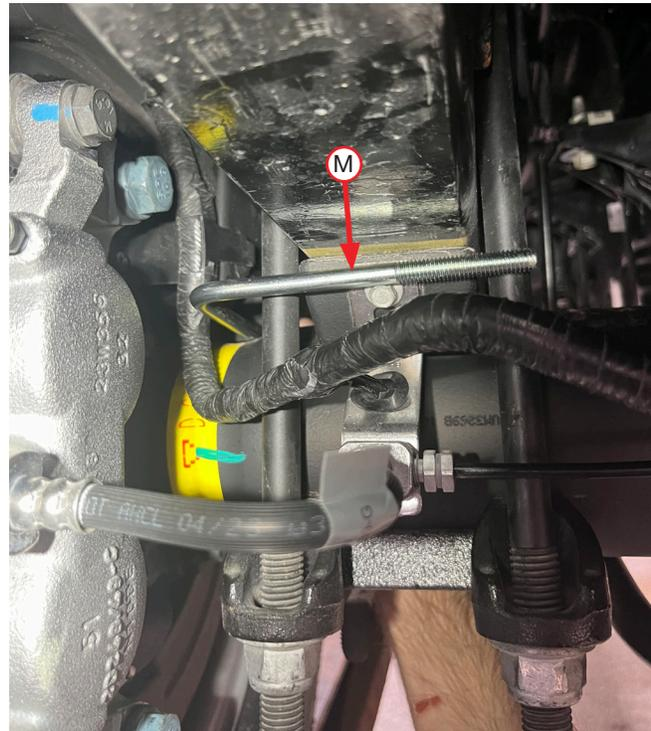

Fig. 35
1. With the vehicle supported by safety stands, drop the axle or raise the body so that the assemblies can be put into position in between the axle and frame. Set the driver's (left) side and passenger's (right) side assemblies into position so that the lower bracket sits on the axle. Install the U-bolt (M) around the leaf spring spacer, as shown in Figure 35. This must be done before installing the assemblies.